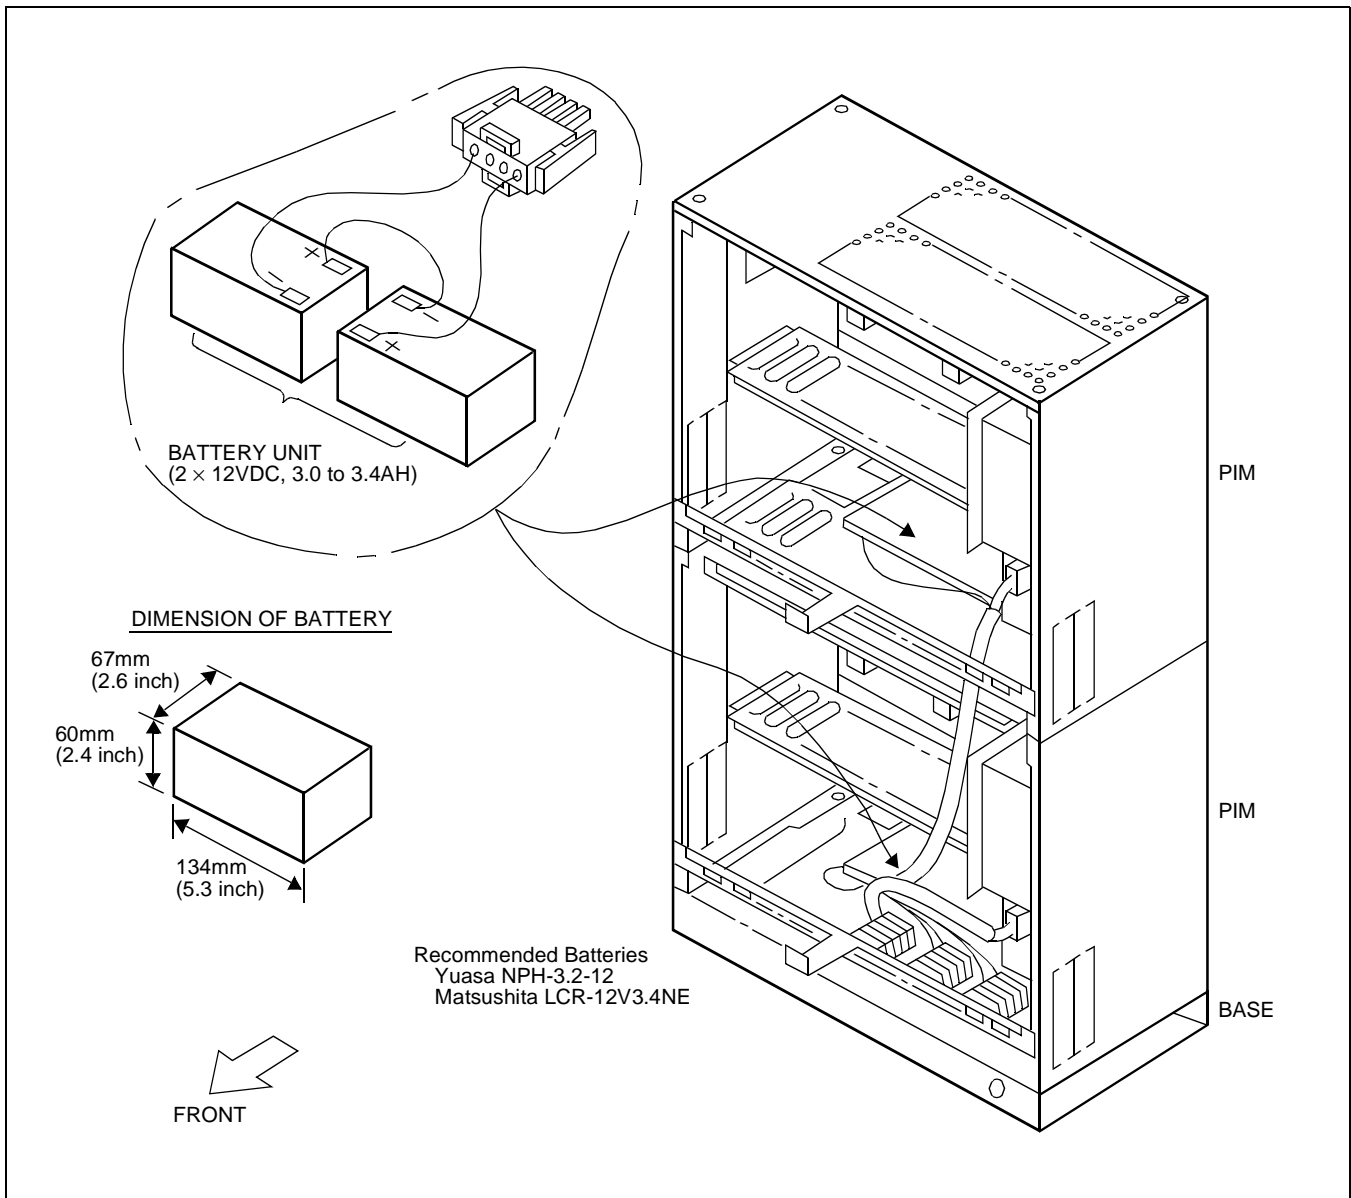

Figure 005-1 Internal Battery Mounting
- (1) Install the two batteries (12VDC, 3.0-3.4AH) into each PIM as shown in Figure 005-1.